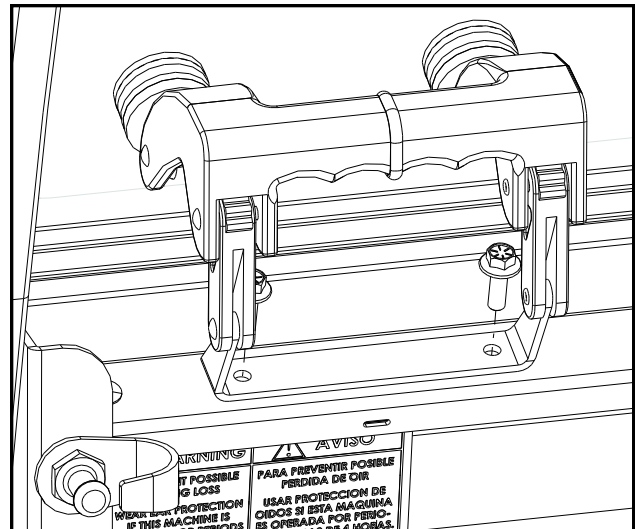

Fig. 11.2 (windshield latch installation - left)
11.2 Fasten pop-out latch brackets to cowl with the pop-out latches open. See Fig. 11.2. Tighten latch bracket hardware.